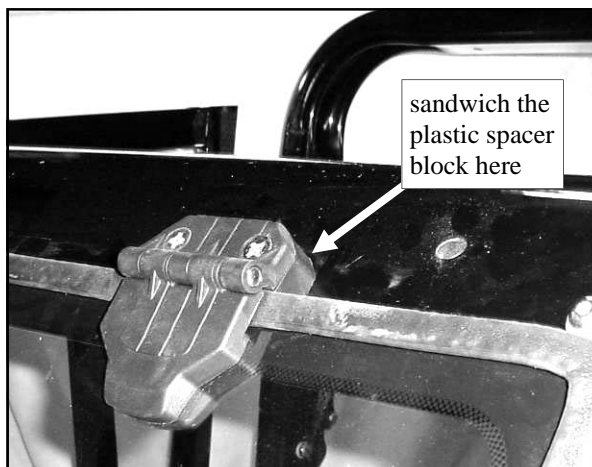

Fig. 9.1 (view from left front side of tractor)
9.1 See fig. 9.1. Have the following items ready: four 5/16-18 x 1 3/4" long flat head bolts, 4 steel washers, 4 locknuts, and 2 plastic spacer blocks. With assistance, install the windshield hinges to the windshield support with the two spacer blocks between the hinge and the windshield support. Loosely install the bolts, washers, and locknuts.